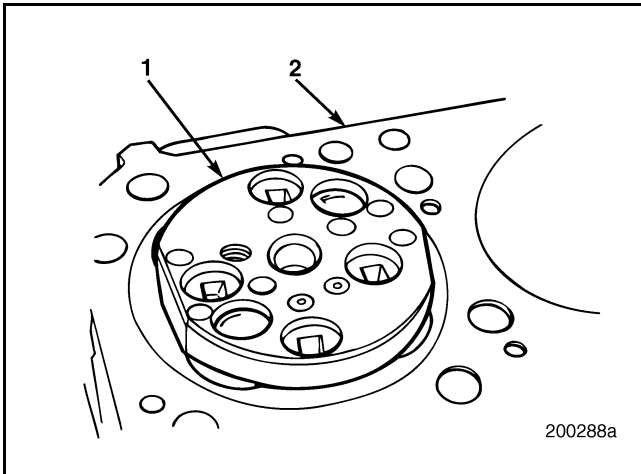

Figure 181 — Cutter Base Alignment
1. Place the cutter base on the cylinder head. Insert the hold-down capscrews into the appropriate mounting holes (per application) until the hold-down capscrews bottom out in the mounting holes. Refer to Figure 181.